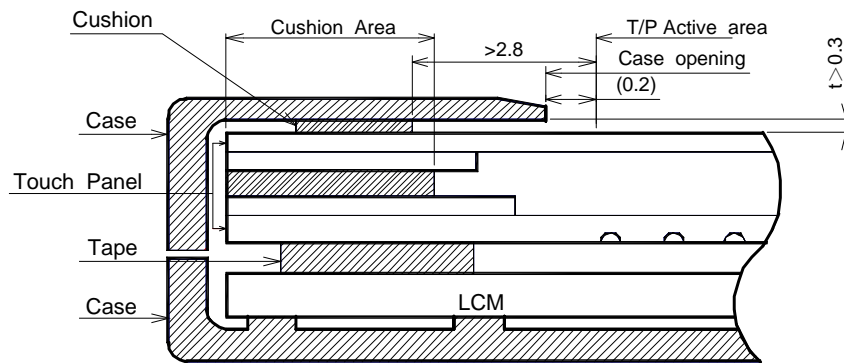

Fig. 13.1
1) Please refer to Fig. 13.1 for housing the display with touch panel into applications. The Fig. 13.1 shows some points as below: